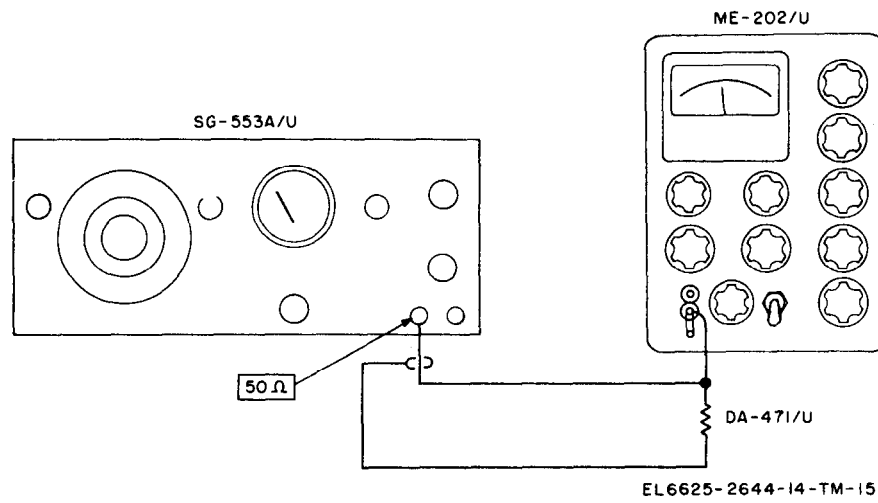

Figure 7-4. Output level meter, normal scale accuracy, test setup.
b. *Test Connections and Conditions.* Terminate the 50 ohms output using DA-471/U and interconnect equipment as shown in figure 7-4.